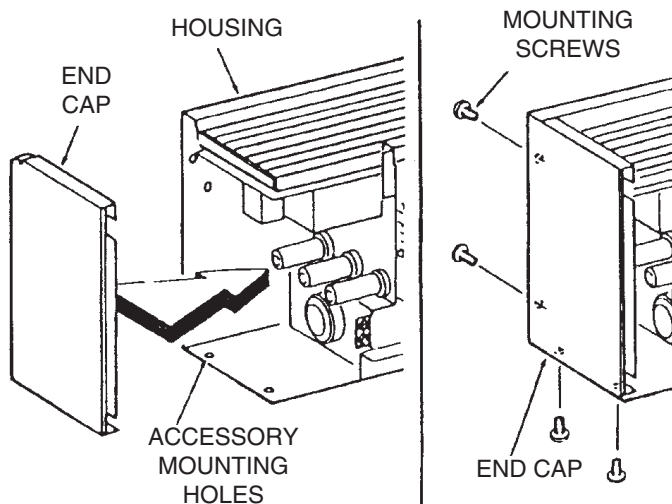

Figure 5
- Install end caps (must be purchased separately) on both ends of the heater housing. Refer to Figure 5 for details of end cap installation.
6. Install end caps (6) on the outer end of the last heater(7) and (9) using four #6 screws supplied with end caps. (Refer to Figure 5 for details of end cap installation.)